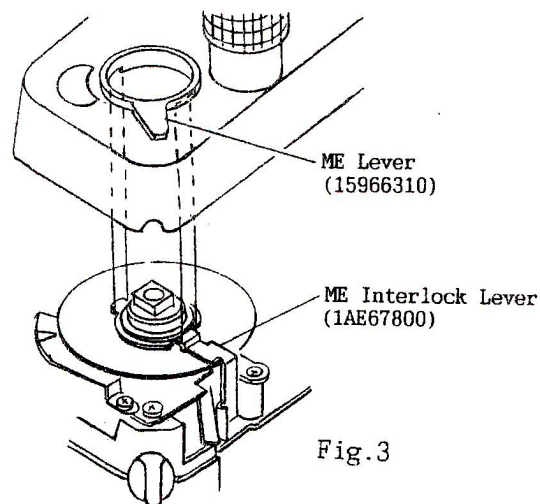

Fig. 3
- b) Position the pins of the ISO Contact Base Ass'y (1AEAA390) as shown in Fig. 3 (at ISO 100). When installing the Top Cover Ass'y, position the "100" of the ISO Dial at the ISO Index on the Top Cover.